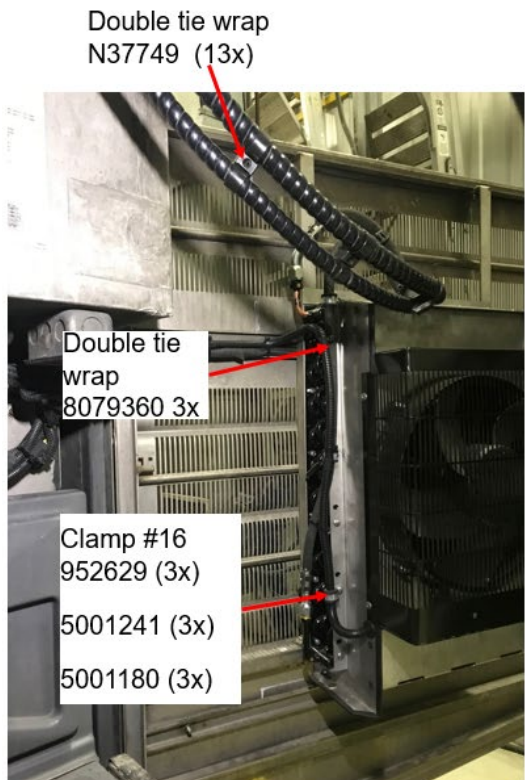

**FIGURE 27: 454037 PRE-ASSEMBLY**
20. On 454037 shroud assembly, install cable and hose management accessories shown on Figure 27